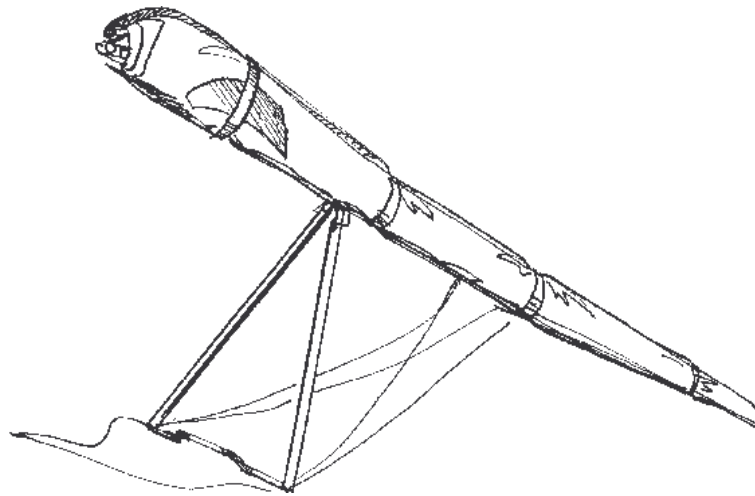

Fig. 16
equally taught, roll the sail up to the dive sticks and place it along the leading edge. Secure the sail at dive stick with the velcro ties. Continue rolling the sail up to the wing tip bags and secure the wing with more velcro straps (Fig. 16).
4.1.8. Cover the rear keel tube/wires junction by a protective bag. Place the bags with battens on the nose section along the keel, put the nose cone under the velcro strap that is nearest to the nose tighten tape (Fig. 16). Fit the bag over the glider (from the upper side).